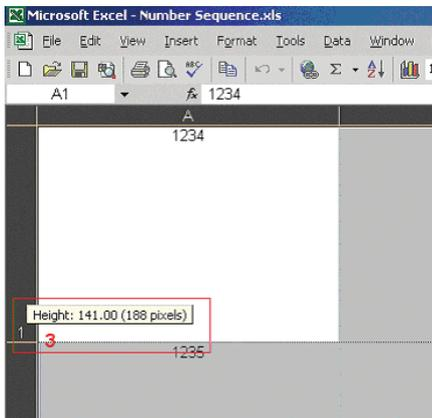

Fig. 4
4. Now that you have the correct size matching your label, change the value in the first cell (column A, row 1) and enter any static text you want. Leave it blank for none. In the next cell (column B, row 1) enter the number you would like to increment. See Fig. 4. The next cell (column C, row 1) enter the value you would like to increment by Default is 1.